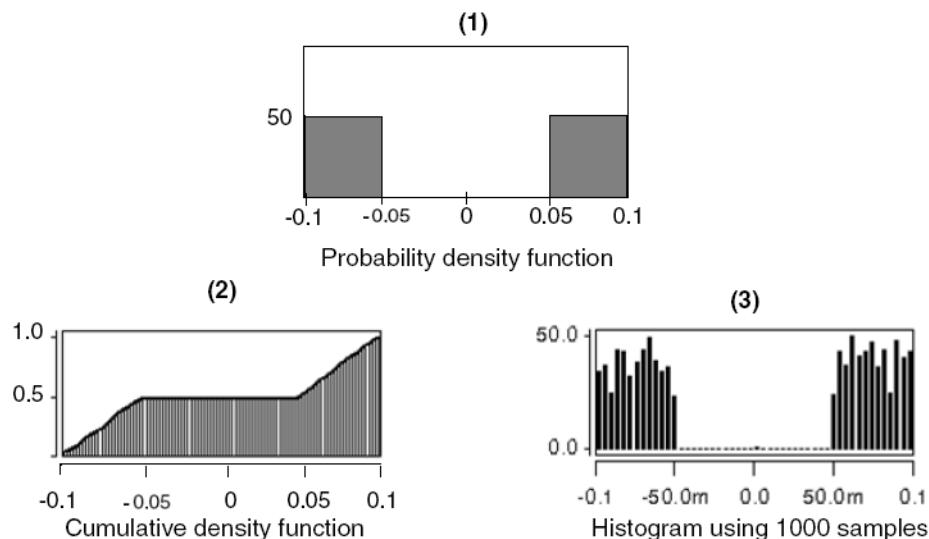

Figure 128 Probability, cumulative density and 1000-sample histogram
The probability density function is shown in Figure 128 (1). Figure 128 (2) gives the corresponding cumulative distribution function. This is coded in the Variation Block as:
The histogram generated by taking 1000 samples is shown in Figure 128 (3).